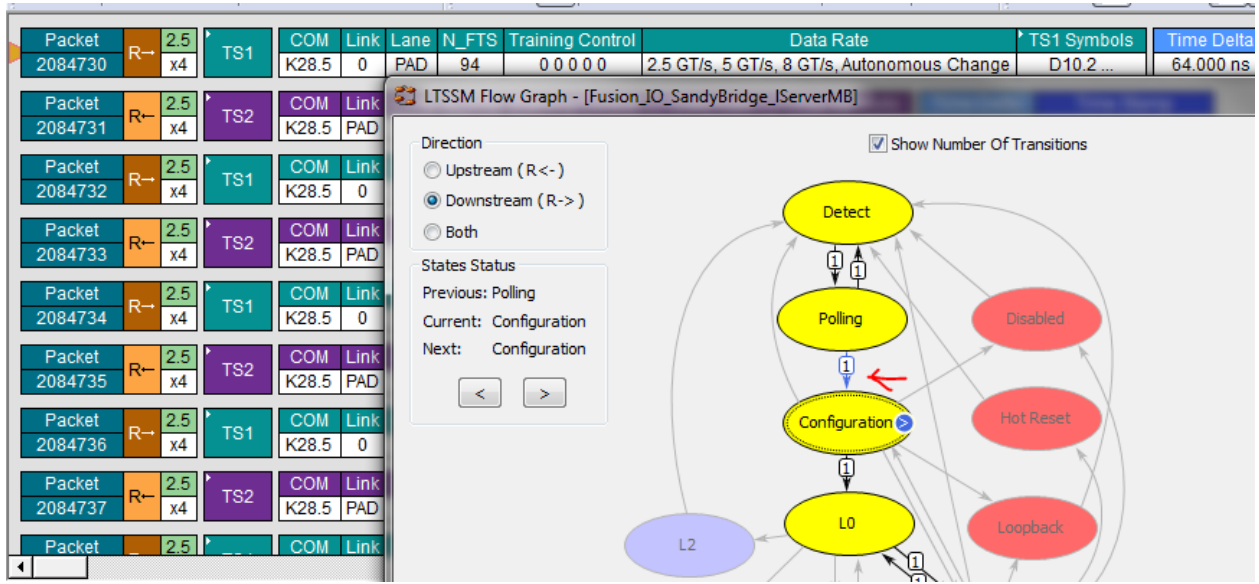

Figure 65 - Transition to Configuration State
- In the next pass of Polling.Active, RP gains bit/symbol lock moves to Polling.Config and link training is successful, as shown in Figure 65.